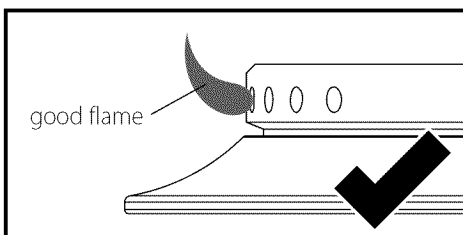

figure 5
- Move the venturi back until the 'yellow tip' just disappears (see fig. 5) - this is the correct venturi setting. Tighten the securing screw.